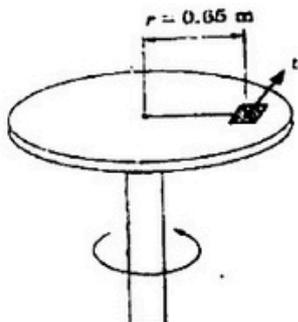

Figure 6
- Q6 (a) A small block rests on a turn table which, starting from rest, is rotated in such a way that the block undergoes a constant tangential acceleration  $a_t = 2\text{ m/s}^2$ . Determine how long it will take for the block to start slipping on the turntable and the speed  $v$  of the block at that instant. Refer Fig.6. (6)